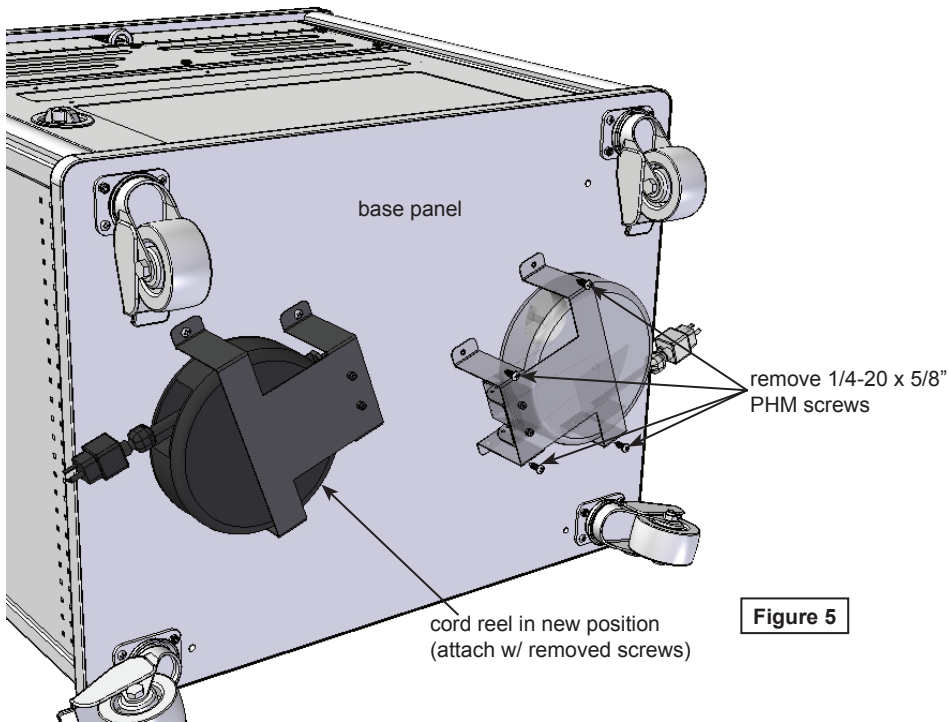

Figure 5
3. Remove the (4) 1/4-20 x 5/8" PHM screws from the cord reel mounting bracket. See **Figure 5**.